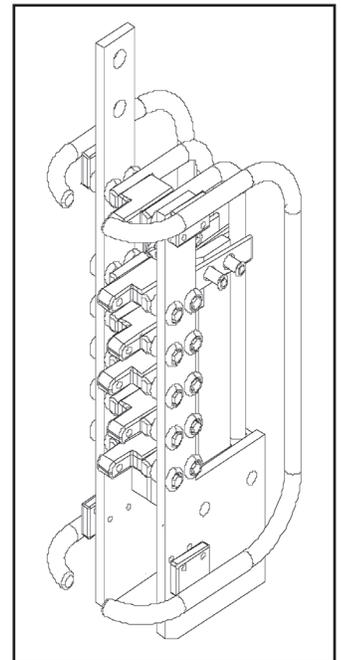

Figure 9. With Shields
2. For applications that require an impulse voltage withstand of greater than 250 kV, up to 650 kV, two epoxy coated, aluminum electrostatic shields are bolted to the tap deck (Figure 9).